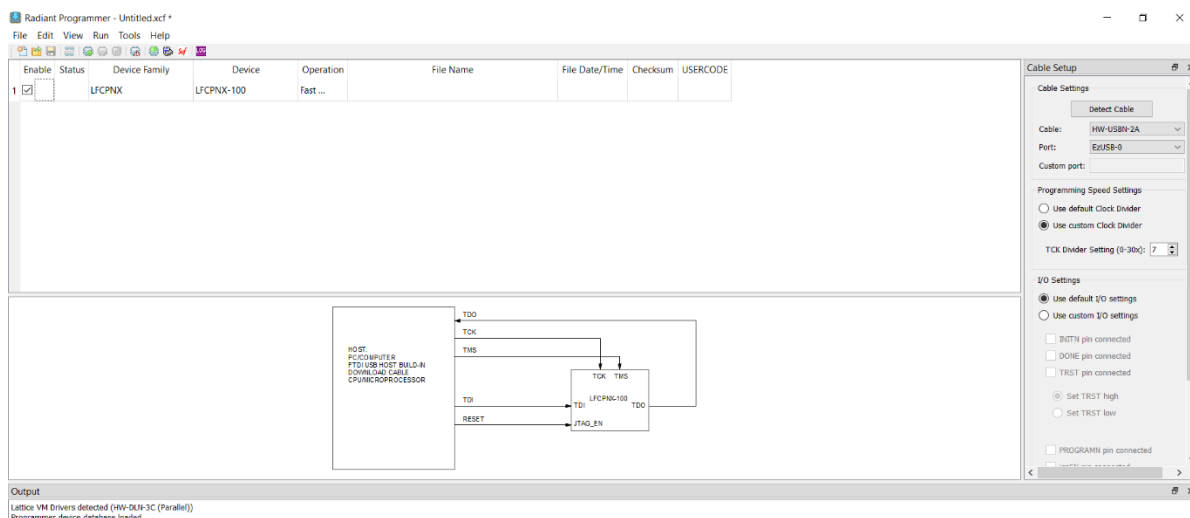

Figure B.4. Radiant Programmer - Device Selection (Main System)
4. In the Radiant Programmer main interface, select LFCPNX for Device Family and LFCPNX-100 for Device or detect automatically as shown in Figure B.4.